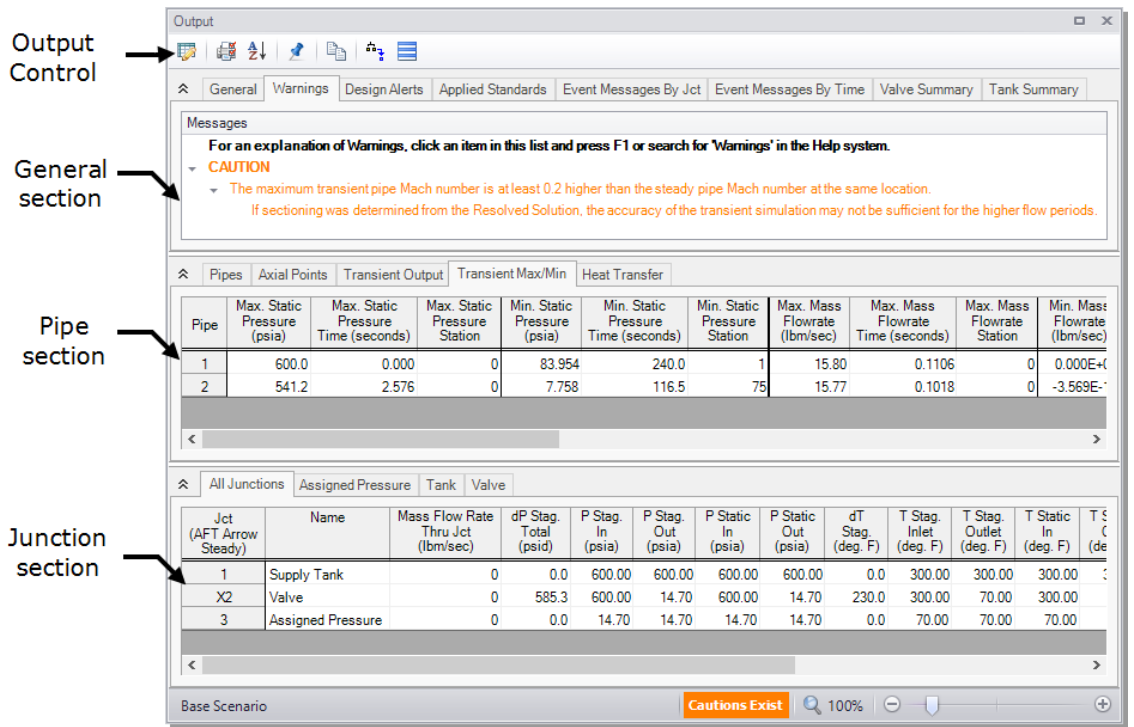
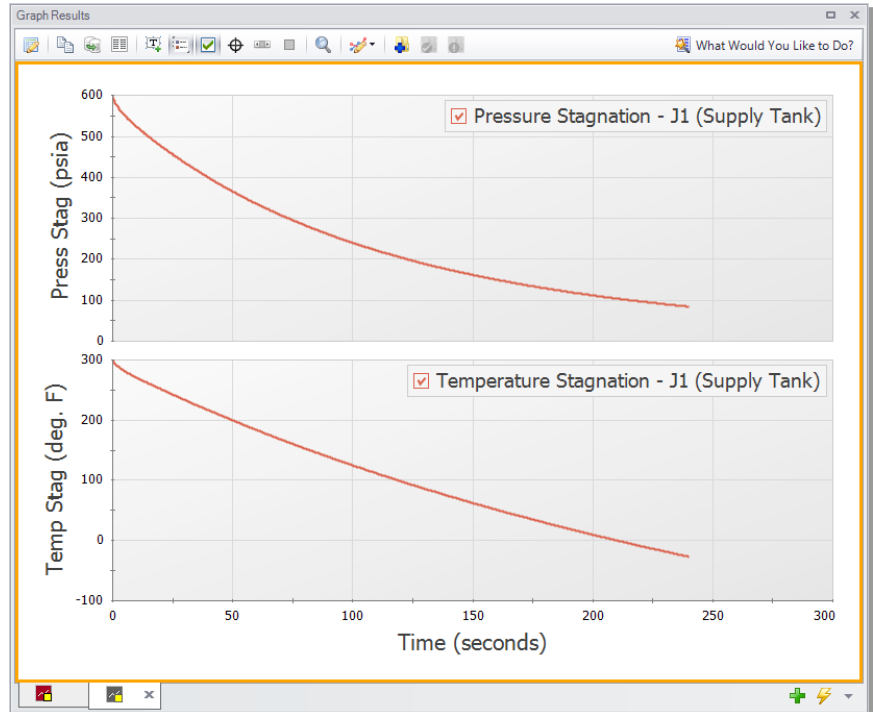

Figure 2.20 The Output window displays steady and transient output in text form
Figure 2.31 The Transient Junction graph shows how variables within a junction change over time. The temperature and pressure of Tank J1 over time are plotted.
Click Output after the solver is finished. The Output window (Figure 2.20) is similar in structure to the Model Data window. Three areas are shown, and you can minimize or enlarge each section by clicking the arrow next to the General, Pipes, and All Junctions tabs. The items displayed in the tabs can be customized with the Output Control window from the Tools drop-down menu.
The Output window allows you to review both the steady-state and transient results. The Pipes tab, All Junctions tab, and any specific junction tabs in the Junction section (such as Branch, Tank, Valve, etc.) show the steady-state results. A summary of the maximum and minimum transient results for each pipe is given on the Transient Max/Min tab in the Pipe section and is the active tab displayed in Figure 2.20.
- **Click Generate** at the bottom of the Quick Access Panel to display the graph. These graphs show the tank pressure and temperature initially decrease quickly, then decrease more slowly as time progresses. This change in slope is due to a decreasing pressure gradient between the tank and the atmosphere as the tank is emptied, which slows the mass flow rate out of the tank (Figure 2.31).
In AFT xStream, sectioning plays an important role in model accuracy. Due to how the MOC operates, accuracy increases with the number of sections you have in the model. To illustrate this, the model was re-run with a Minimum Number of Sections Per Pipe of 6. Comparing Figure 2.31 to Figure 2.36, values such as the tank temperature and pressure for Tank J1 remain similar with the increase in the number of sections. However, values such as the maximum temperature reached in Pipe 2 (Figure 2.20 and Figure 2.34), changed substantially. This value increased from 1613 deg. F to 2097 deg. F. This change in the maximum temperature indicates that the difference in sectioning has significant implications if your interest is in the conditions in the blowdown pipe. It should be noted that changing the Minimum Number of Sections Per Pipe from one to six caused the computation time of the model to increase from 5-6 minutes to 3.5 hours. Therefore, it is of